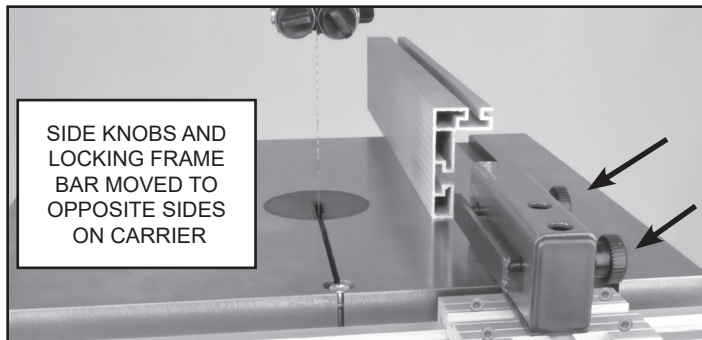

FIGURE 34
- Fully unscrew the side knobs from the frame bar and reassemble the parts on the opposite, left side of the carrier. Then rotate the fence 180° end-to-end and slide it back onto the carrier. FIG. 34 & 35.